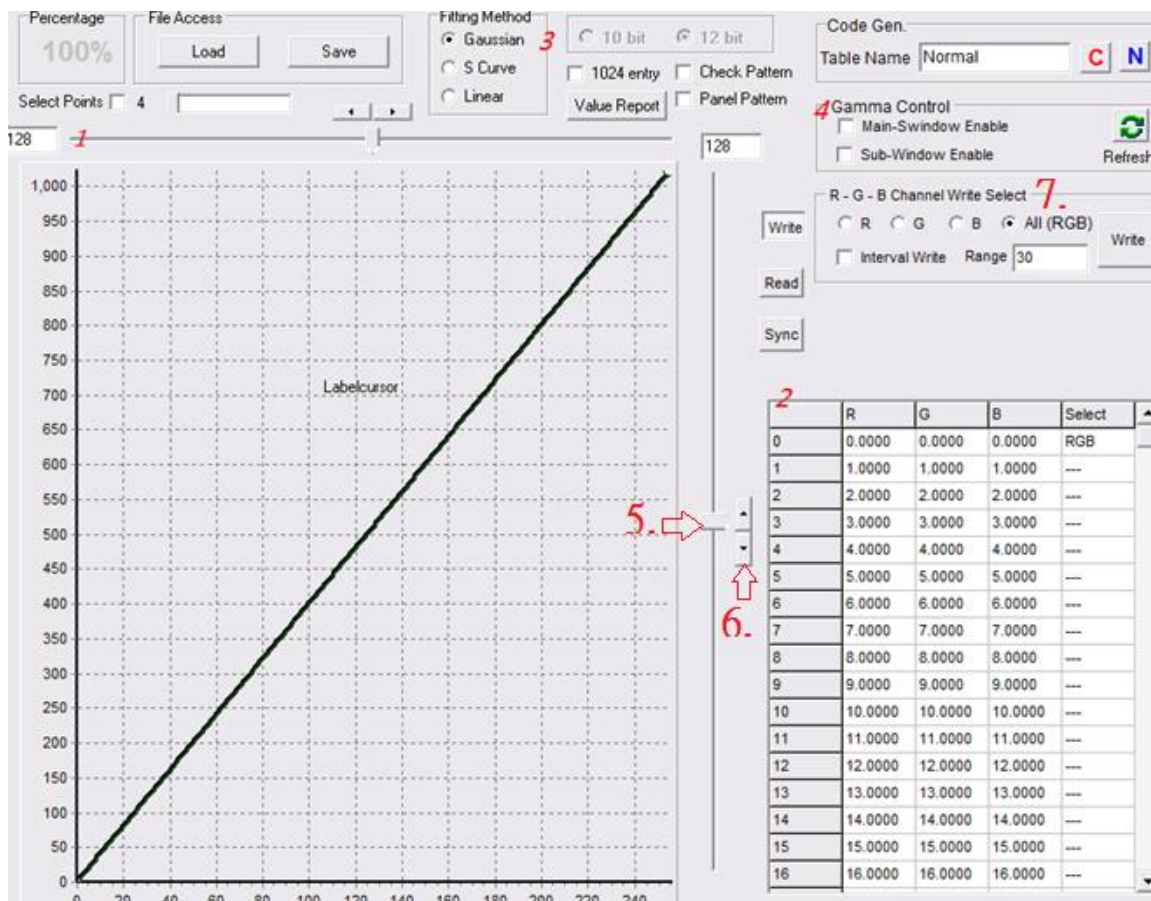

Figure 7: Gamma Chart
4.1.1.1. Method for Changing Node Value: (Ref. Figure 7)
- b. Select points bar: There are node numbers 4, 8, 16, 32, 64, 128, and 256 for choice. The user can set different bar values for different color channel. (No.7 in Figure 7) If the user select all channels, RGB selected points bar value will be changed to the same value.